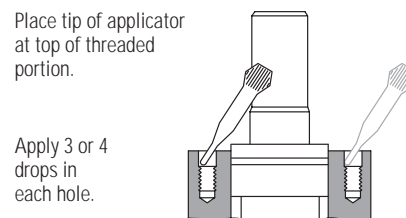

Figure 14
24. Apply 3 or 4 drops of Loctite adhesive (Loctite no. 601 sealant) at top of threads in each of 4 holes in housing, see Fig. 14. Do not allow parts with Loctite applied to surface to contact any metal parts other than their proper assembly. Wipe off excess Loctite from housing face, using a non-petroleum base solvent. Do not apply Loctite to threads more than 15 minutes before installing screws. If housing stands for more than 15 minutes, repeat application. No additional cleaning or removal of previous Loctite is necessary.